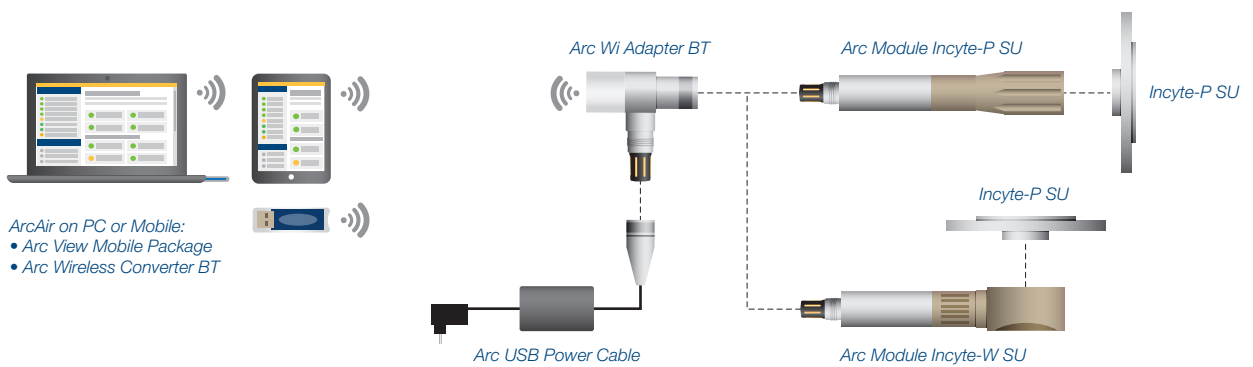
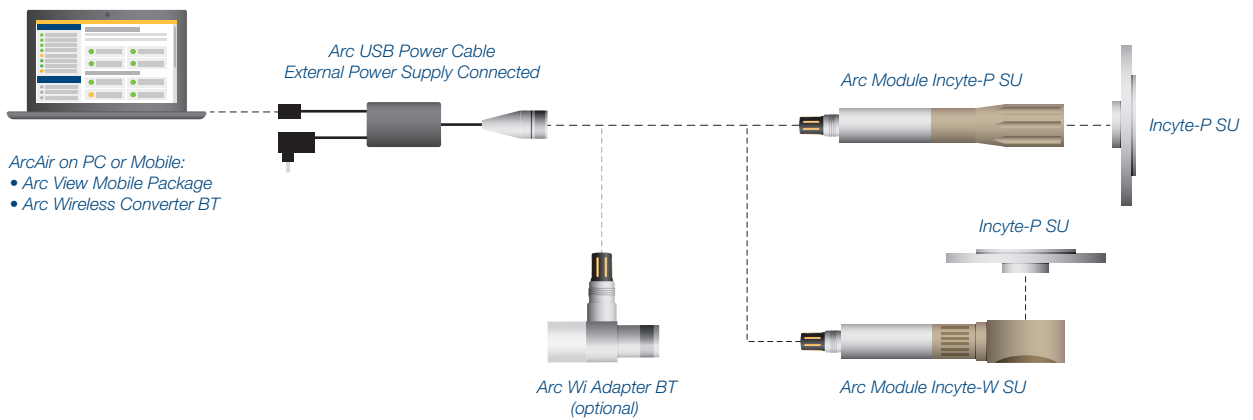

Figure 18: Layout for wireless connection.
Figure 19: Layout wired connection to PC or notebook.
With the Arc Sensor family, Hamilton supplies intelligent sensors for process monitoring. With their integrated micro-transmitter, the Arc Module Incyte SU enable direct communication to the process control system using digital Modbus communication, and optionally via 4-20 mA interface, using the Arc Wi Adapter 2G BT (Ref 243470). Bluetooth wireless communication with the Arc Wireless Adapter may be used for configuration, troubleshooting and saves time without compromising the quality of the wired connection (see Figure 18). It enables wireless communication with smartphones, tablets or computers. A wired connection can be realized using an Arc USB Power Cable (Ref 243490) and a computer (see Figure 19). With the integrated micro-transmitter, the Arc Module Incyte SU provide more reliable measurement directly to the process control system or to the ArcAir software.
- 1) Connect the Arc Module Incyte SU with the power supply, e.g. Arc USB Power Cable (see Figure 18) or connect the optional Arc Wi Adapter BT (see Figure 19)